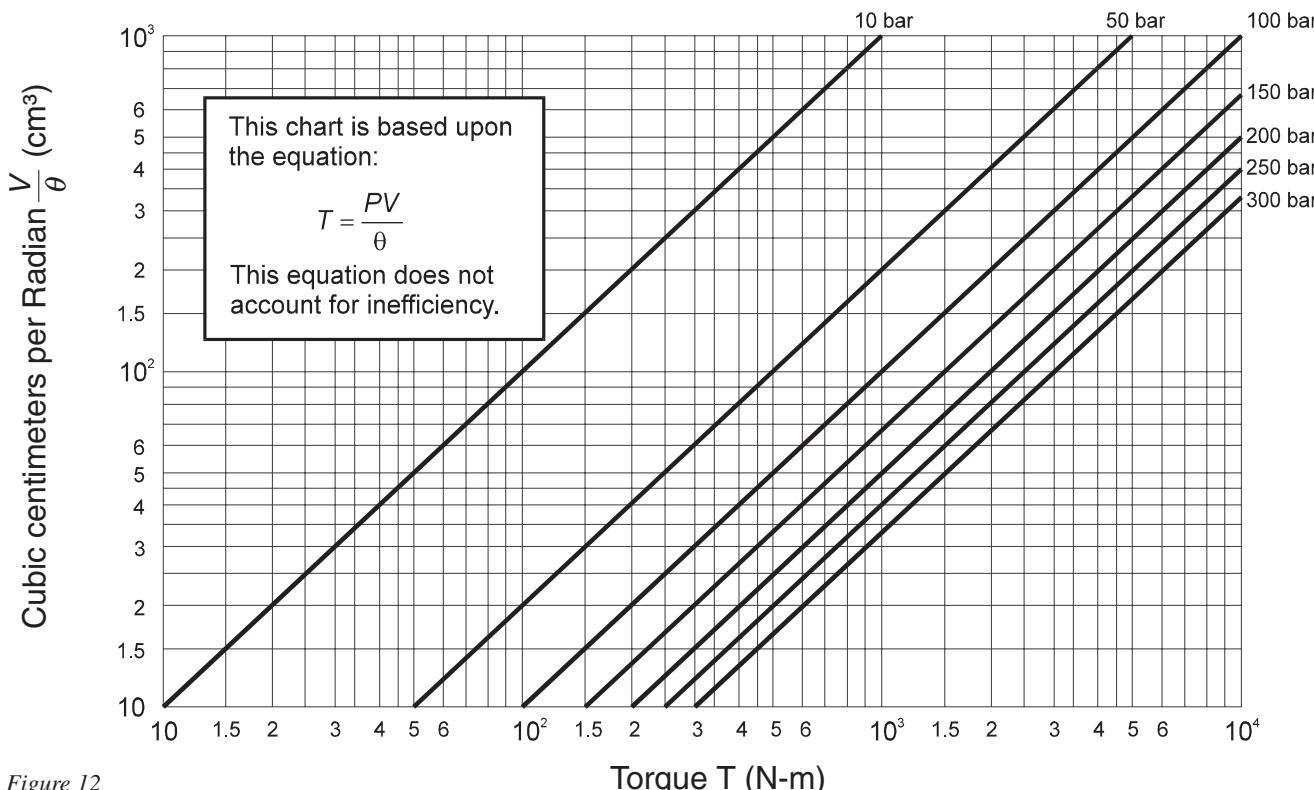
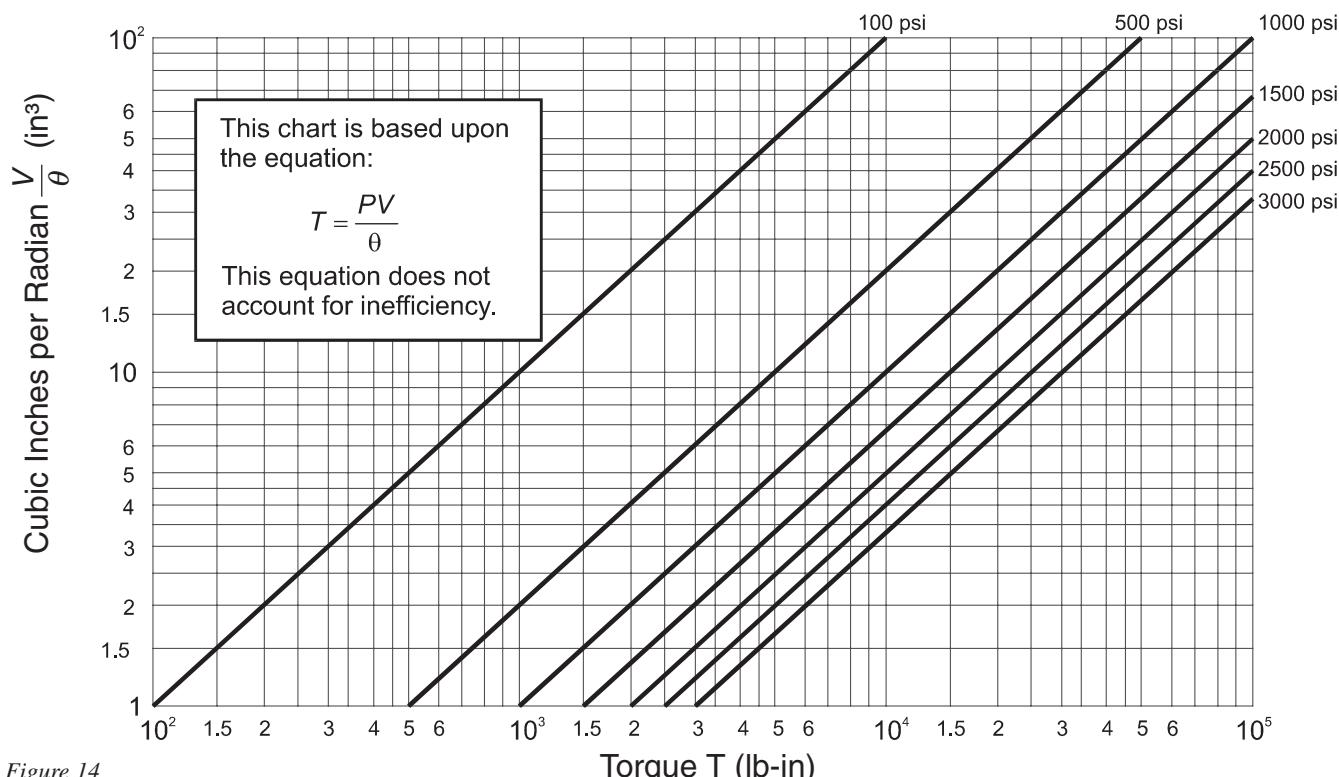

Figure 12
Figure 14
- C. Calculate V/θ based upon T_D and the maximum system pressure chosen in Step A. V/θ is the volume displacement per one radian of rotation for a rotary actuator. V/θ can be calculated from the Equation 7, or by using Fig. 14. (Fig. 12 for S.I. units).
- H. Select a rotary actuator with a torque rating greater than T_D , a displacement greater than V , and a pressure rating greater than P_C . Calculate system operating pressure P based upon the selected actuator's rated torque T , and the selected actuator's V/θ value using Equation 10 or Fig. 12.
C.) Calculate $\frac{V}{\theta}$ use Equation 7 or Fig. 14: